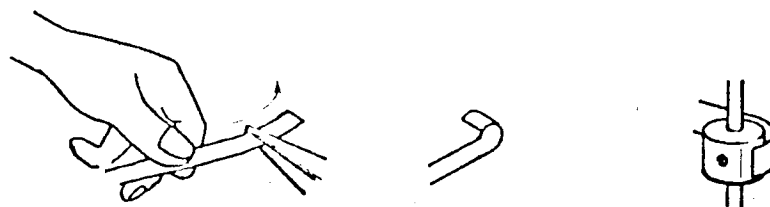

Fig. 4-4
- 2 Give a curl to the tape end by using a pair of tweezers so that the tape end well contacts around the wind shaft. Use smooth edged tweezers not to tear off the tape. Refer to Fig. 4-4.